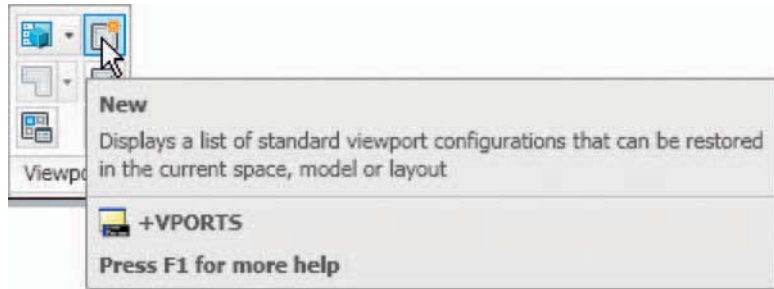
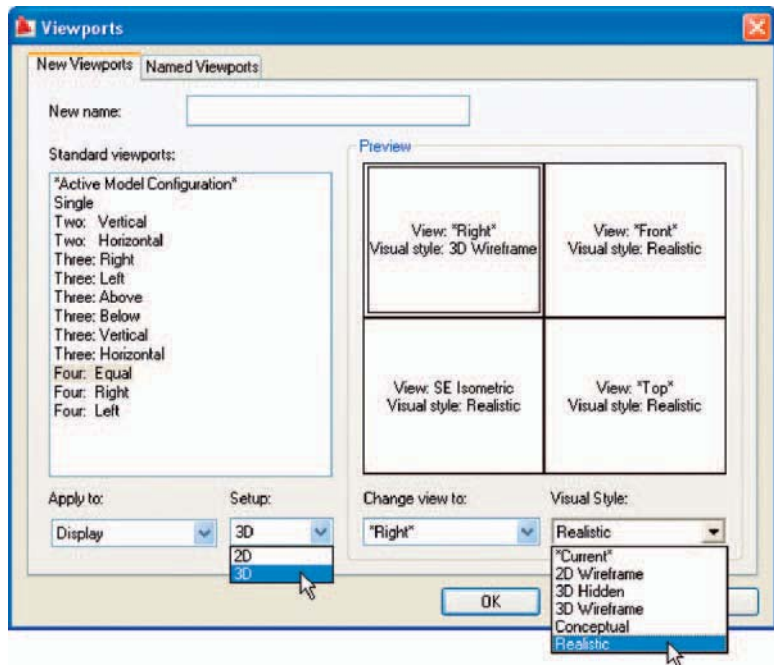

Fig. 13.1 Selecting **New** from the **View/Viewports** panel
Fig. 13.2 The **Viewports** dialog
1. In a **3D Modeling** workspace *click New* in the **View/Viewports** panel (Fig. 13.1). The **Viewports** dialog appears (Fig. 13.2).